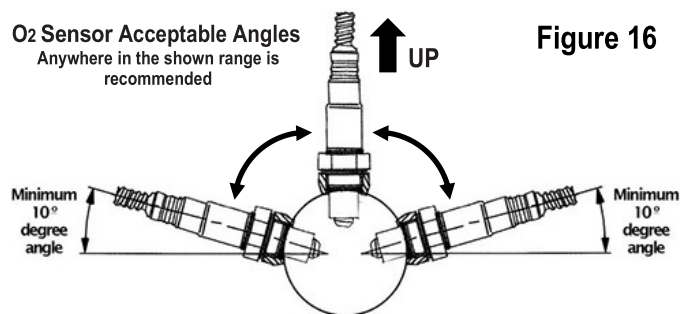

Figure 16
- The sensor should be between 10° to 90° above horizontal (see figure 16) to allow condensation to run off. If this is not adhered to, the sensor is susceptible to water damage and premature failure.